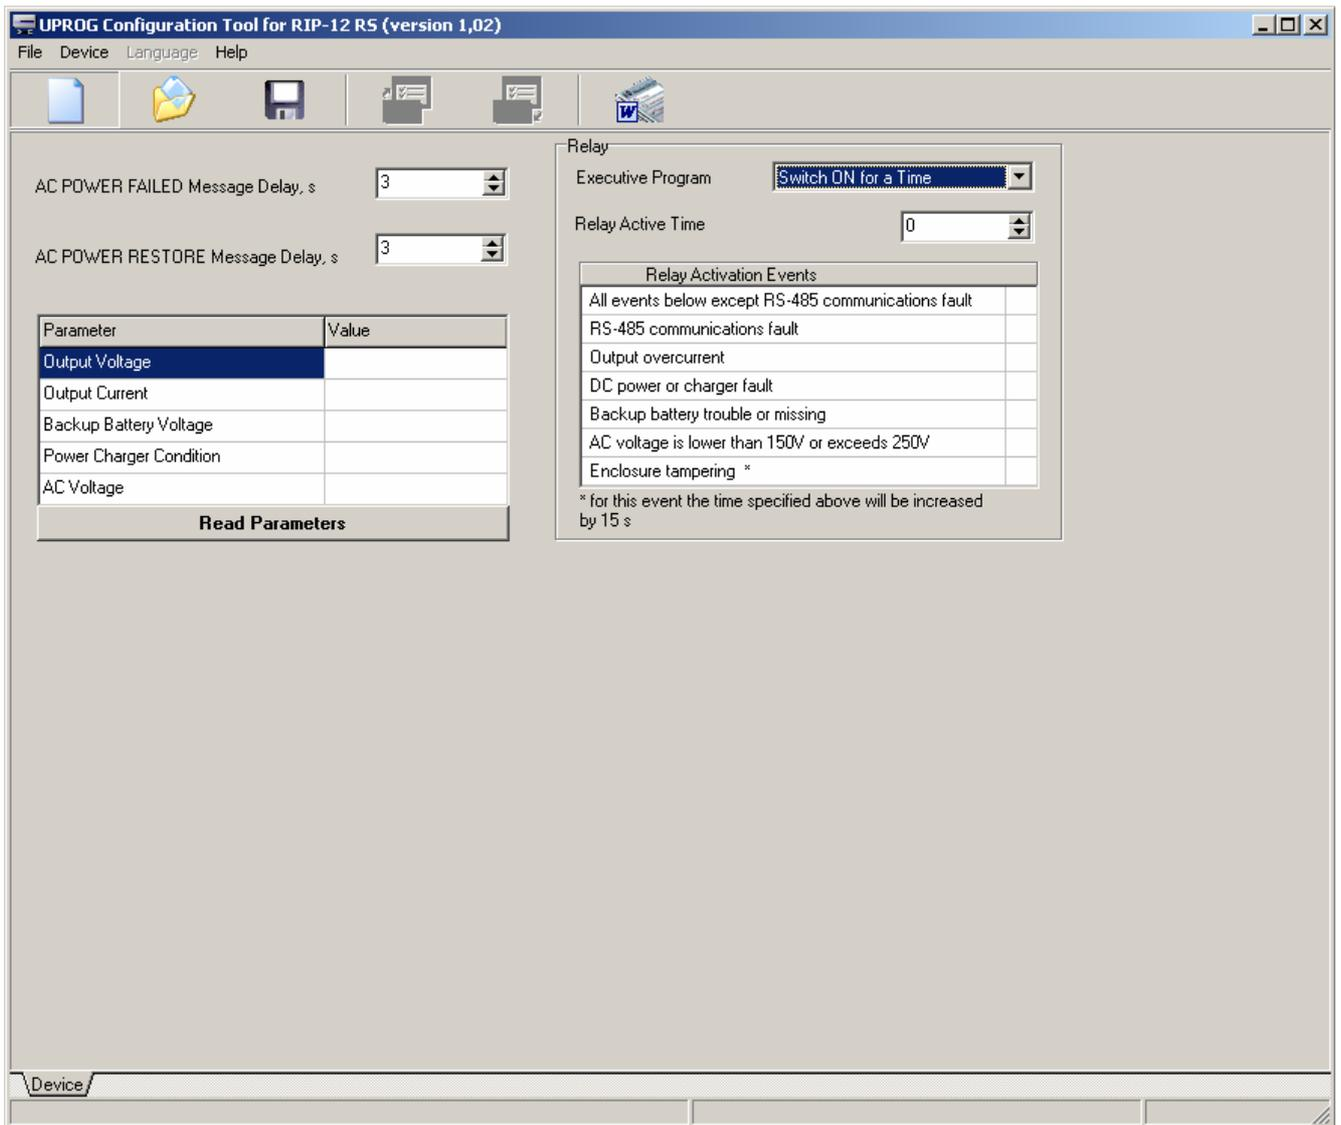

Figure 5. RIP-12 RS Programming Window
4. The window displaying current RIP-12 RS settings will be opened (see Figure 5). You can program the device as necessary.